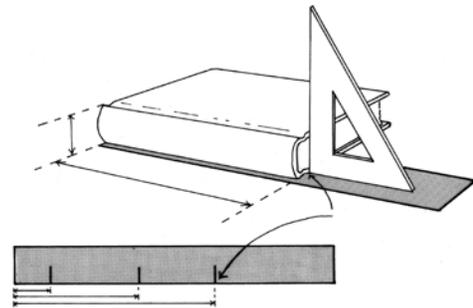

FIGURE 8
length (L), widest width (W), and greatest thickness (H) (Figure 8).